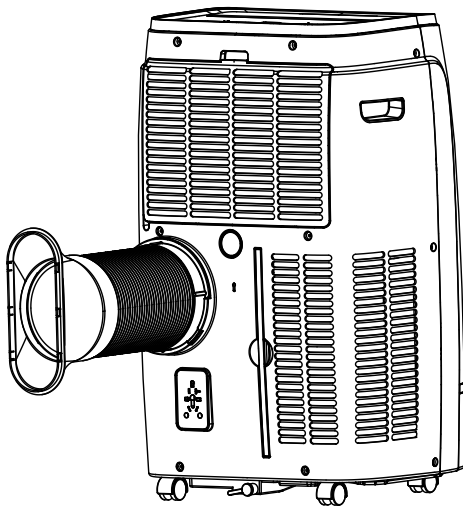

Fig. 1
1. Connect the flat fitting to the hose, extend the hose as maximum (1,5 mt) for reaching the outside and it connect to the back of the air conditioner. (Fig. 1)
1. To make the hole in the glass it is advisable to take the porthole kit accessory to the glazier (Fig. 1)
(Fig. 1)